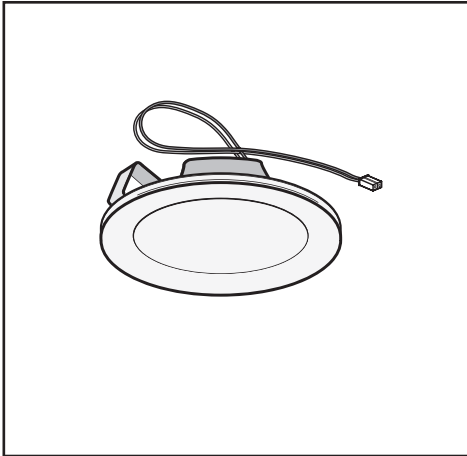

Fig.9
• **Replacing light Leds “1.1 W” (Fig.9):**